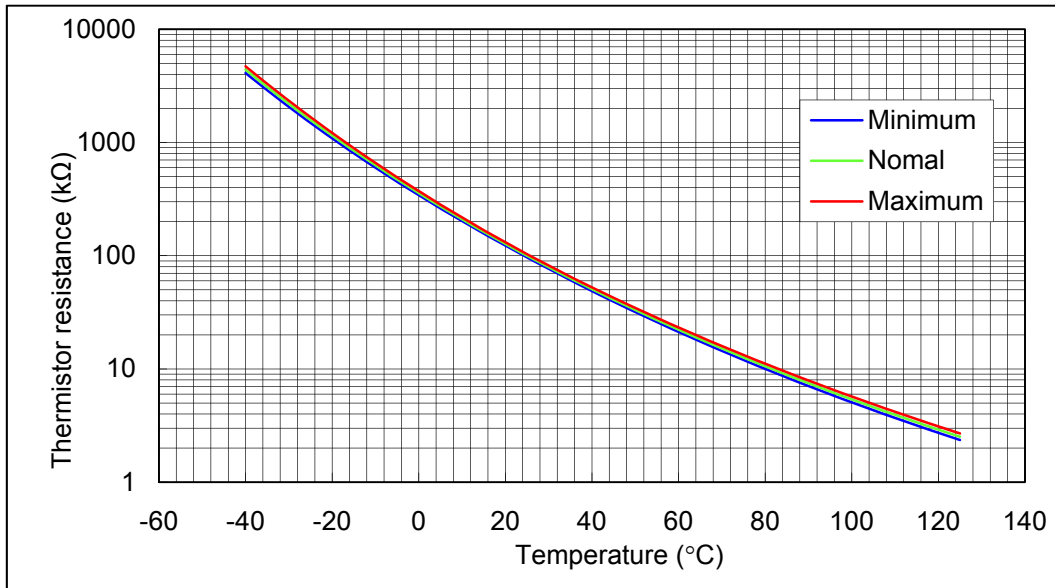
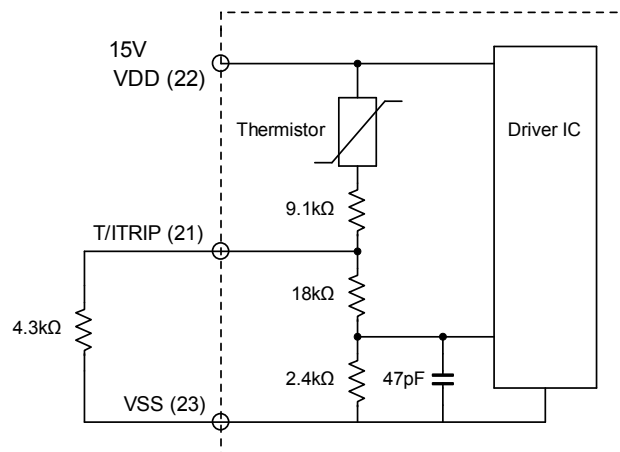

Fig. 10 Variation of thermistor resistance with temperature
Fig. 12 Sample application circuit for temperature monitoring
7. Inside the IPM, a thermistor used as the temperature monitor is connected between V_{DD} terminal and T/ITRIP terminal, therefore, an external pull down resistor connected between the T/ITRIP terminal and V_{SS} terminal should be used. The temperature monitor example application is as follows, please refer the Fig.10, Fig.11, and Fig.12 below.